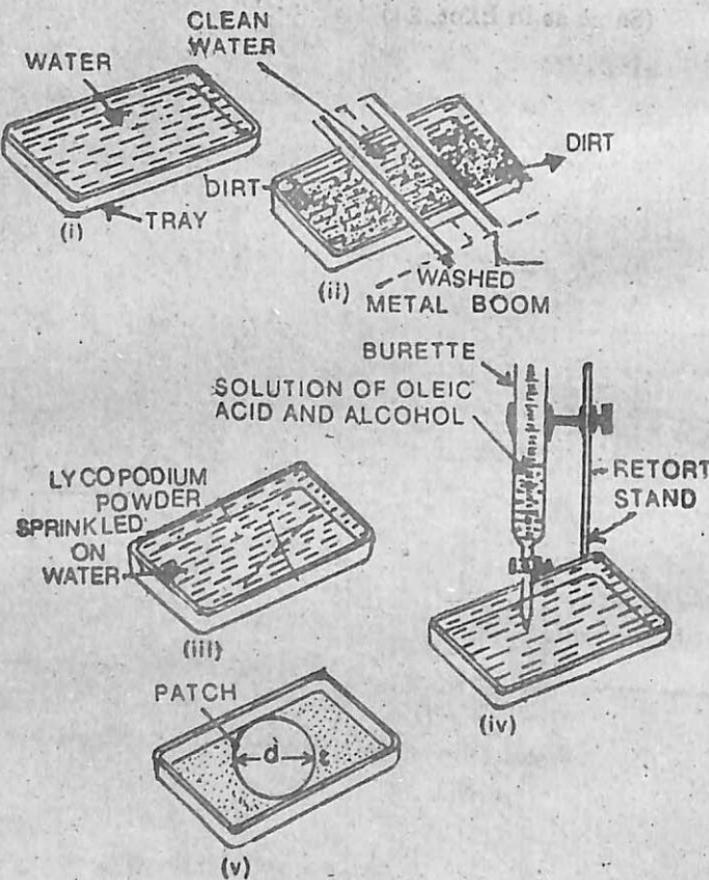

Fig. 27.1.
3. Place the given glass bottom tray ( $30'' \times 30''$  as used in photography) with graph paper attached to the underside on the bench. The tray is cleaned with clear cotton and detergent powder and rinsed with water a number of times without touching any of its sides with fingers so that it is free from grease etc. Fill the tray partially with clean tap-water and level it carefully by using rubber wedges. Now fill the tray to *over-brimming* with further levelling (Fig. 27.1).
4. Clean the water surface by moving the two \*waxed metal booms slowly from the middle to the two ends of the tray [Fig 27.1 (ii)]. The booms should be left near the end of the tray.
5. When the water in the tray has become quite steady sprinkle the surface with lycopodium powder. [Fig. 27.1 (iii)].
6. Arrange the burette so that its jet is just above the surface of the water in the tray [Fig. 27.1 (iv)].
8. Using the graph paper estimate the area of the \*\*patch of clear liquid formed [Fig. 27.1 (v)]. If the patch is rough circular then use metre rod to measure the maximum diameter of the patch produced in two directions.